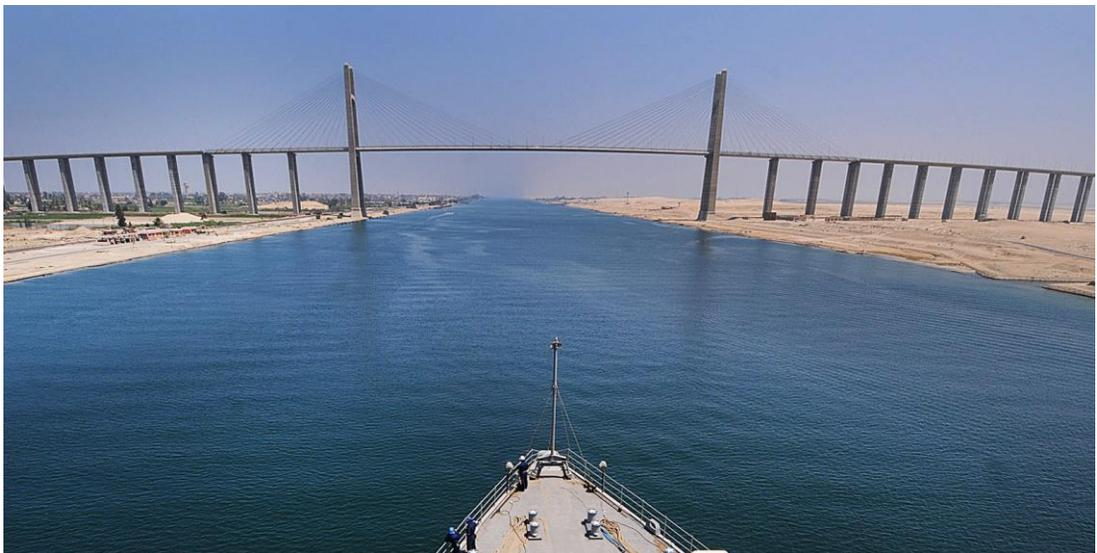

Figure 2
- Al Salam Bridge(Figure 2) at Suez Canal, the suspension bridge crossing the Suez Canal at El-Qantara, linking the continents of Africa and Asia.